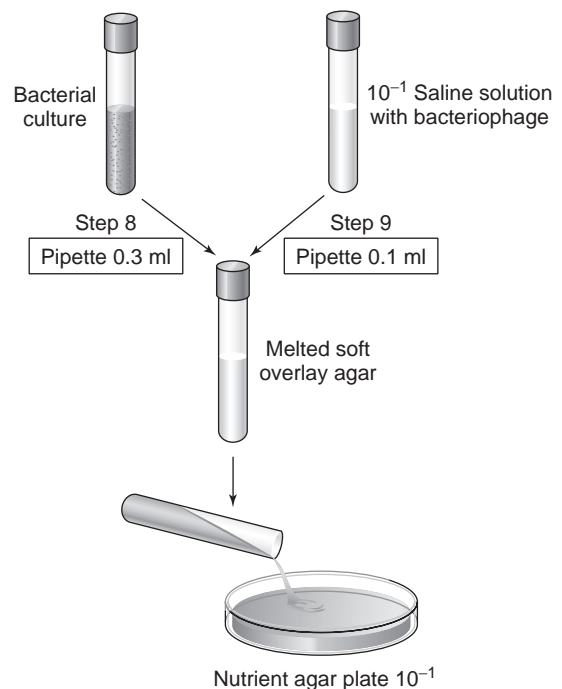

FIG. 8.4. Steps 8 and 9.
9. (Again work quickly.) Remove one inoculated tube of soft agar from the waterbath. Wipe off all of the water from the surface of the tube. Using a 1 ml pipette, aseptically transfer 0.1 ml of the 10^{-1} saline phage dilution into the soft agar tube. Mix the agar tube by rolling it between your hands (Fig. 8.4).